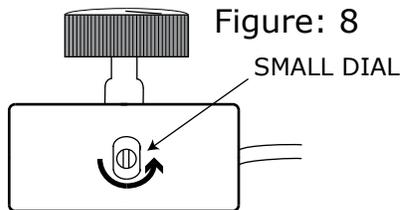

Figure: 8
- To adjust minimum speed: Rotate clockwise to decrease low-end speed; counter-clockwise to increase low-end speed. (Figure: 8)